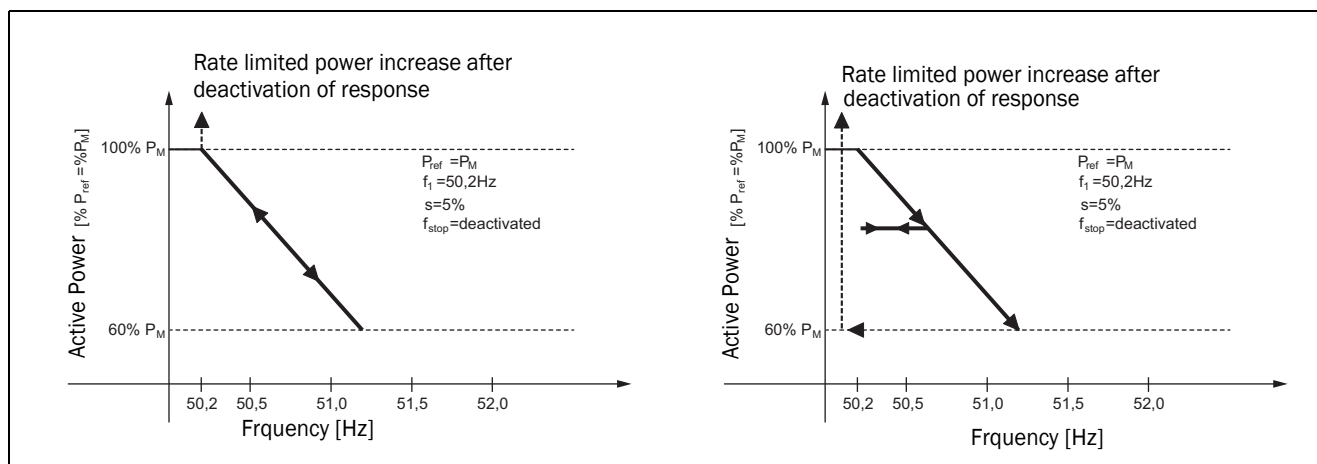

Fig. 45 Active power response during OFRT (source IEC 50549-2).
The AFG dynamic frequency support for OFRT is implemented according to the specifications for LFSM-O (Limited Frequency Sensitivity Mode - Overfrequency) in EN 50549-2 (2019, section 4.6.1), as shown in Fig. 45. The active power response is activated (if enabled via [G341]) when the grid frequency is greater than the defined start frequency (F_{start}) [G342] for the intentional start delay time (t_{start}) [G343]. The amount of active power reduction is calculated based on the droop (D) [G344] and the pre-disturbance active power (P_{ref}) according to below given equation.
Left: Fig. 45 - Example of Active power frequency response to over frequency.
Right: Fig. 45 - Example of active power frequency response to over frequency with configured deactivation threshold.